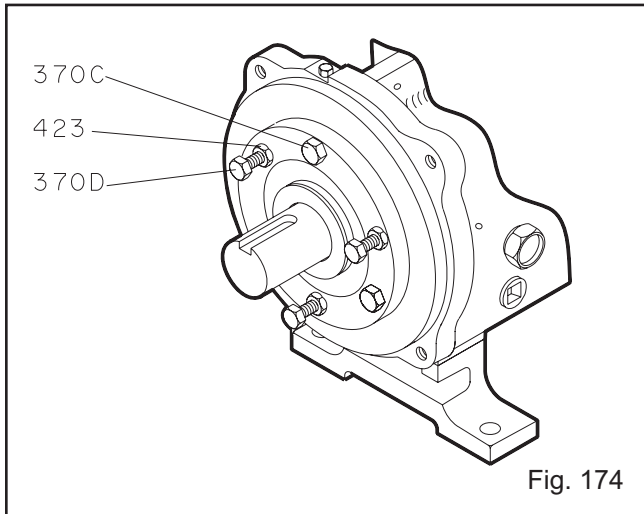

Fig. 174
1. Clean casing fit and install casing gasket (351) in place on seal chamber/stuffing box cover.
2. Loosen clamping bolts (370C) and jacking bolts (370D) on bearing housing (Fig. 174).